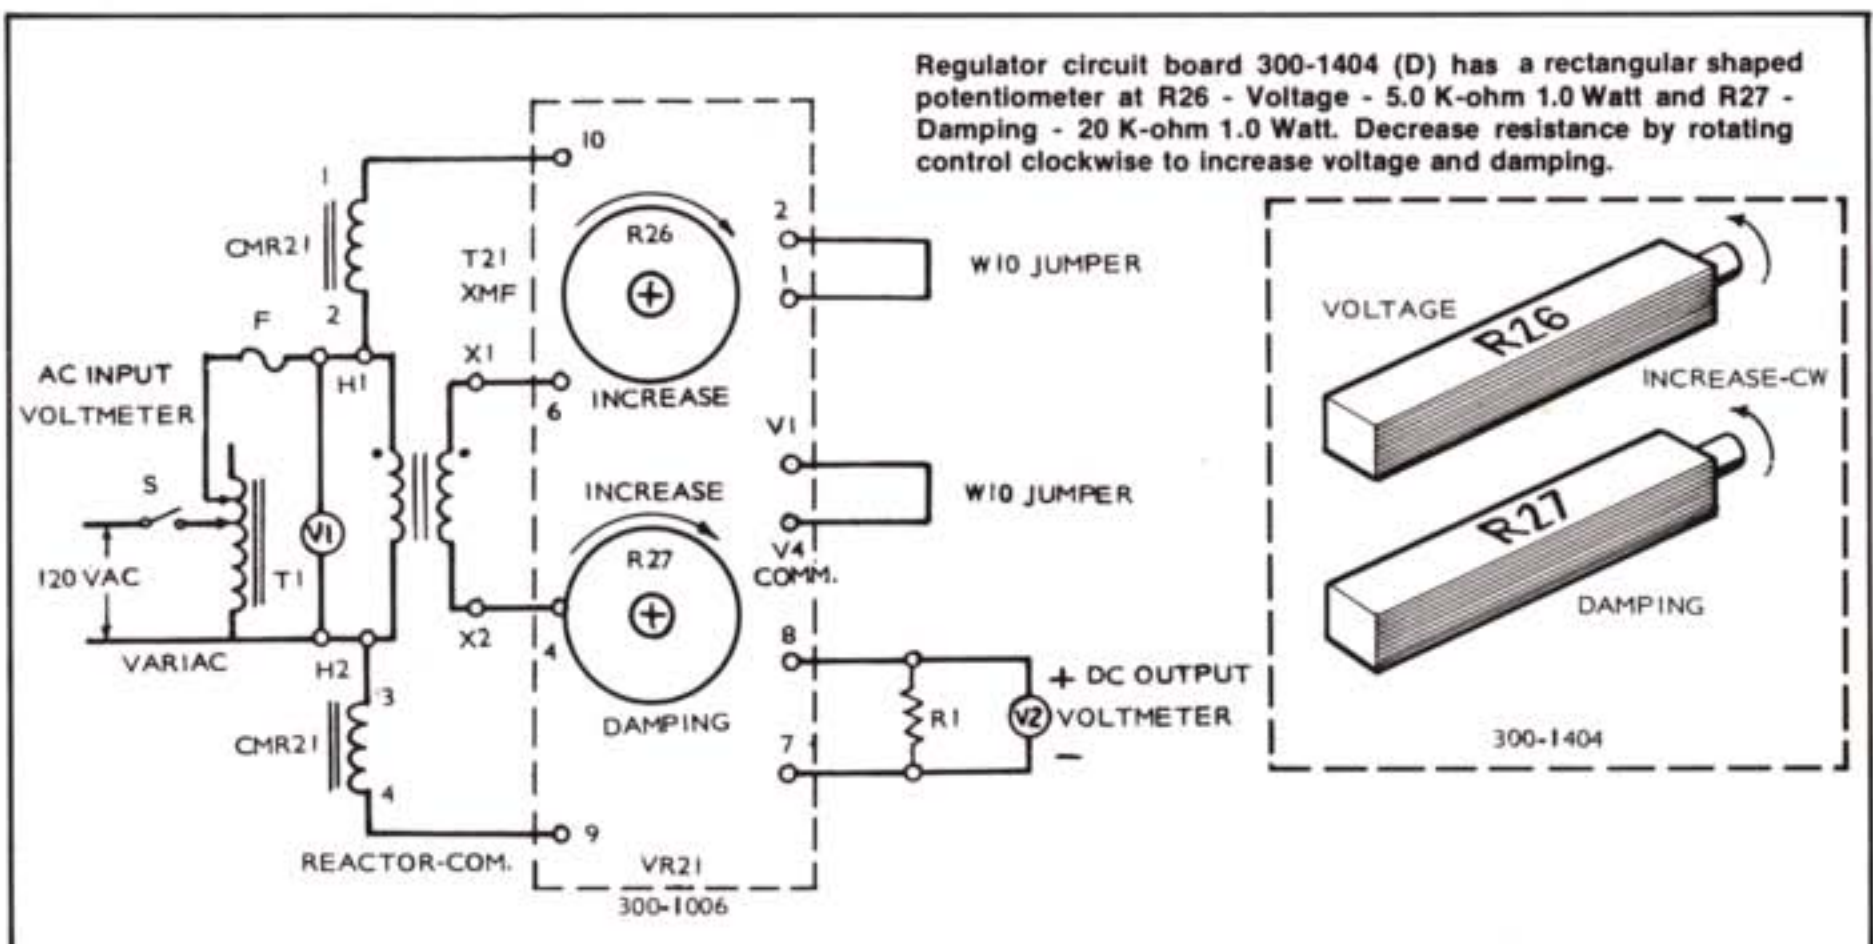

FIGURE 4-20. VOLTAGE REGULATOR CHECKOUT TEST EQUIPMENT CONNECTIONS
2. With unit running at no load, turn generator voltage potentiometer R²⁶ on VR²¹ (Figure 4-20) clockwise to increase output voltage; turn R²⁶ counterclockwise to decrease output voltage.
1. With generator set running at no load, turn potentiometer R²⁷ (Figure 4-20) to a position where voltage tends to be unstable or hunt.
2. Referring to Figure 4-20 and Table 4-3 connect test equipment to the printed circuit board VR²¹ terminals as follows: